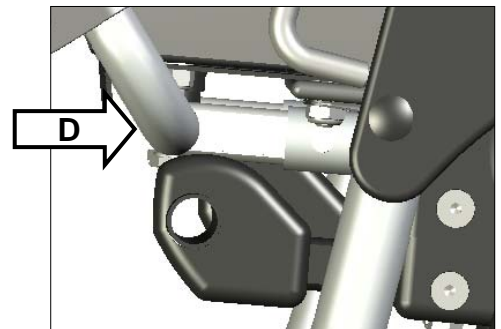

Figure 2: Proper Glide Rest Adjustment
- c. Position the glide blocks so that the top of the curve on the glide blocks are behind the front tube touching on the bottom of the shell frame. The blocks should touch the extrusion (**Fig. 2**).